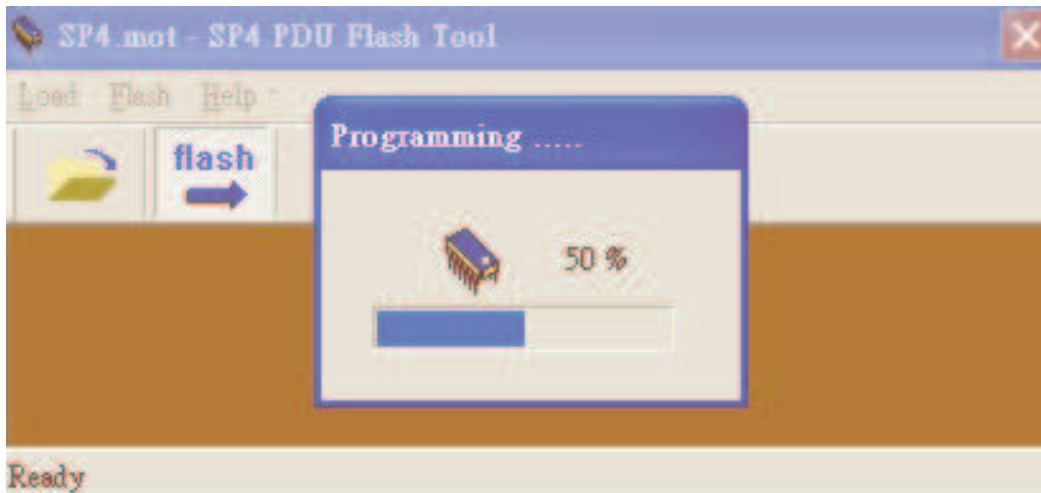

Figure 5. Progressing window.
Step 6. After a while, you will see the “programming.....” window as Figure 5. The complete percentage in the window shows progress of flash procedure. When flash process is running, the complete percentage will increase.